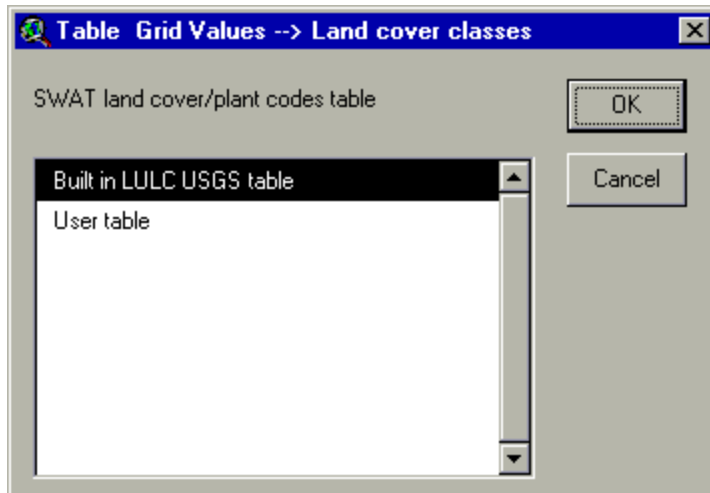

Figure 6.21
- b. A dialog box will be displayed (Figure 6.21).